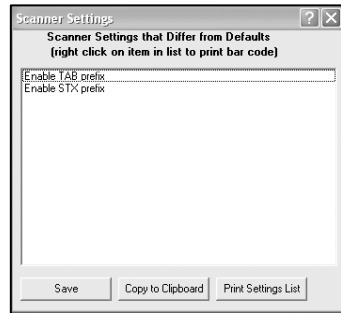

Figure 13. Scanner Settings
9. The Scanner Settings window will open listing the custom settings uploaded from the access point device. Default settings will not be listed (see example in Figure 13).
All the settings shown in Figure 13 are for illustrative purposes only and will differ depending upon the configuration.